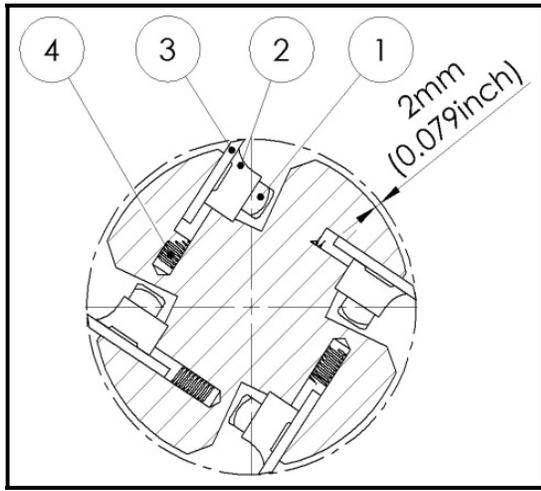

Fig. 19
3. Loosen square head screw (1), take out knife gib (2), knife (3) and lifting spring (4). Fig.19